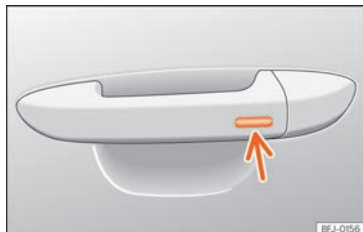

Fig. 62 Door handle: sensor surface.
- **OR:** using the Keyless Access system (only locking): Press and hold the locking sensor surface  Fig. 62 (arrow) on the door handle for several seconds to close the windows and the sunroof. If you release the sensor surface, the closing movement stops.
Press and hold the locking sensor surface **>>> Fig. 62** (arrow) on the door handle to close the sunroof. If you release the sensor surface, the closing movement stops.